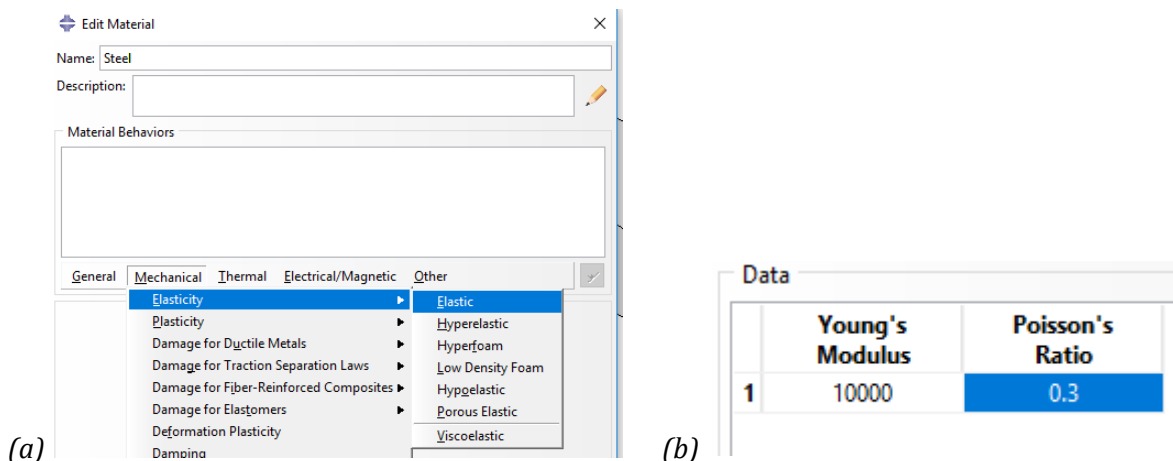

Figure 1-11 – (a) The Edit Material dialog box and (b) material editor.
3. From the material editor's menu bar, select **Mechanical** → **Elasticity** → **Elastic**, as shown in Figure 1-11(a).
4. Enter a value of **10000** for **Young's Modulus** and a value of **0.3** for **Poisson's Ratio** in the respective fields, as shown in Figure 1-11(b).
The **Create Section** dialog box appears, shown in Figure 1-11(a).
The **Edit Section** dialog box appears, shown in Figure 1-11(b).